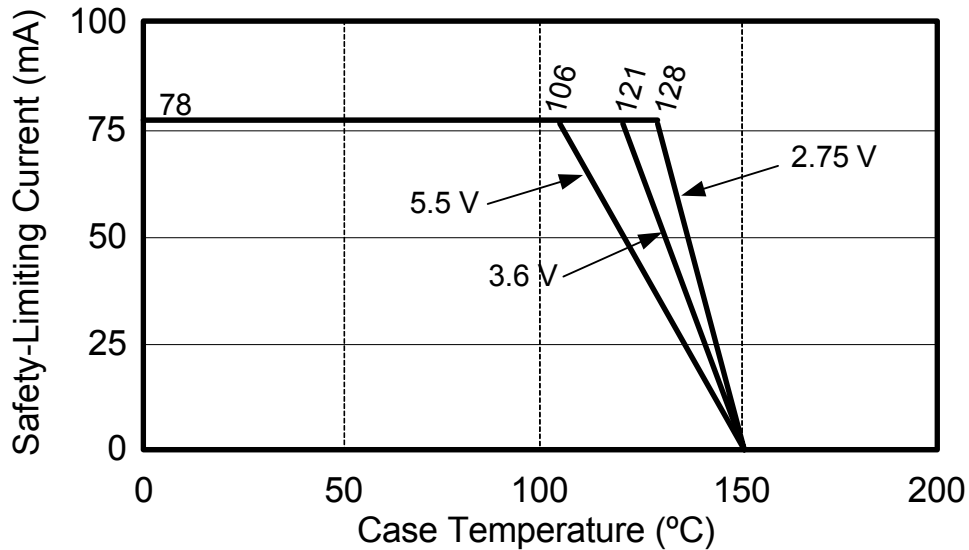

Figure 2. Thermal Derating Curve, Dependence of Safety Limiting Values with Case Temperature per DIN EN 60747-5-2
**\*Note:** Maximum value allowed in the event of a failure; also see the thermal derating curve in Figure 2.